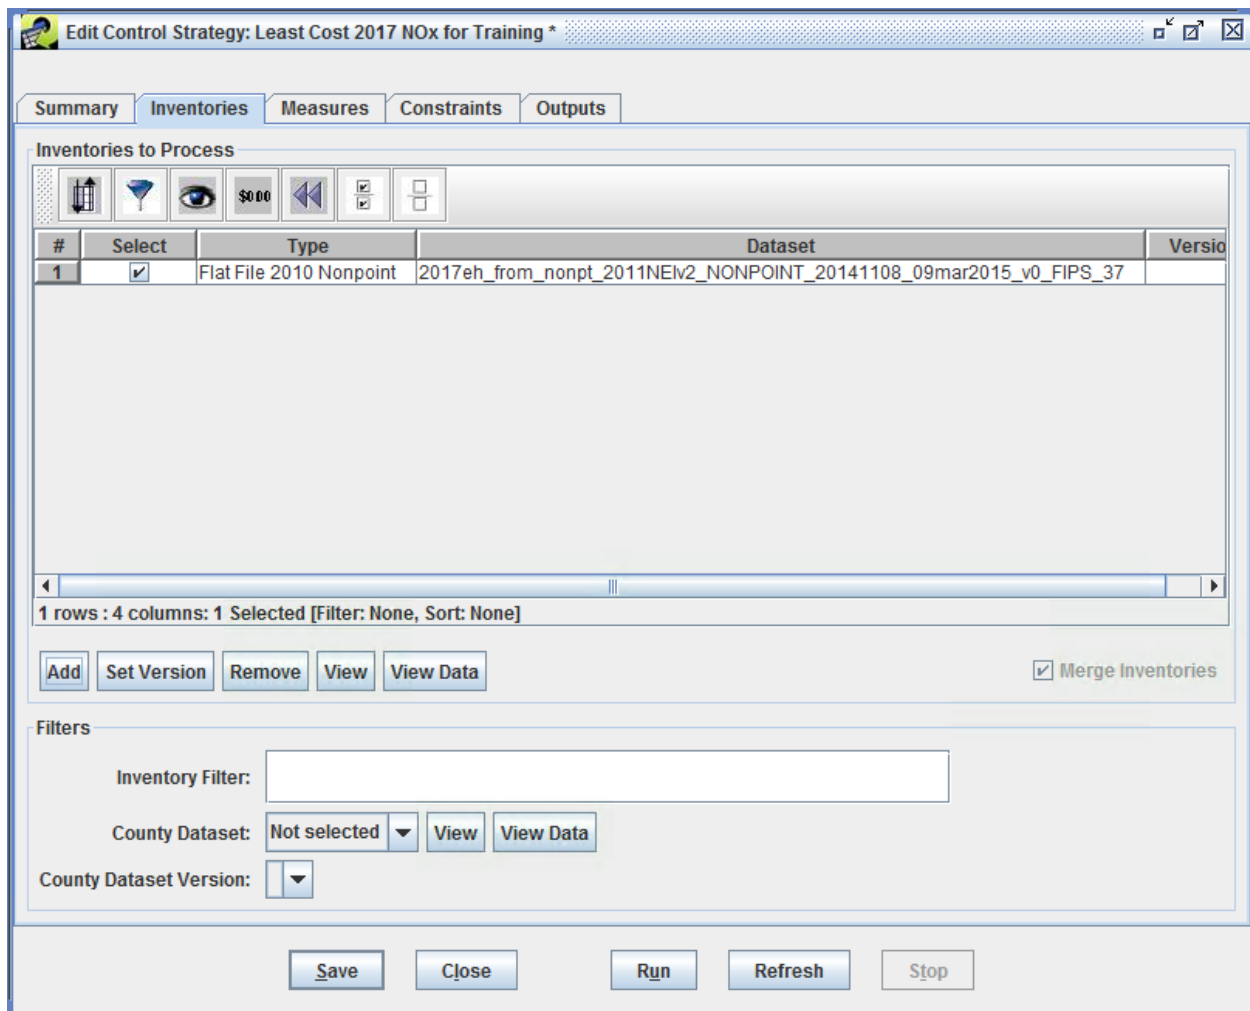

Figure 4.7: Inventories Tab of Edit Control Strategy Window
This section describes how to set the inventory inputs for a Control Strategy on the Edit Control Strategy window **Inventories** tab (Figure 4.7). Click on the **Inventories** tab. The **Inventories to Process** table near the top of the tab lists the emissions inventories for which the control strategy will be run. A control strategy can have one or more emissions inventories as input. Before inventories can be selected for use in the strategy, they must already have been imported into the EMF using either the **Import** item on the **File** menu of the EMF Main Window or through the Dataset Manager. The CoST application comes preloaded with several example inventories for training purposes.
**Step 4-13: Remove an Inventory from a Control Strategy.** To remove inventories from a control strategy, click the **Select** checkbox next to the inventory to remove and click the **Remove** button below the **Inventories to Process** table (Figure 4.7). Click **Yes** to confirm deletion of the selected inventories. There is no need to remove either of the inventories for this example strategy.